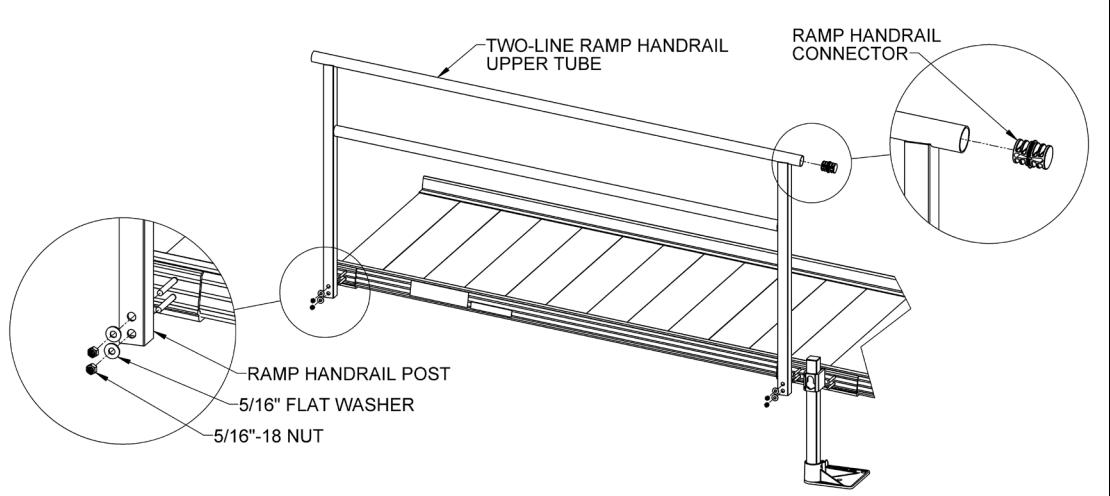

FIG. 4.2
4.2.3. In a multiple ramp run configuration, handrail connectors (HARRRUC – UNIVERSAL CONNECTOR – RAMP TO RAMP) are used to join handrails together. Refer to FIGS. 4.2 and 4.3 for the following: